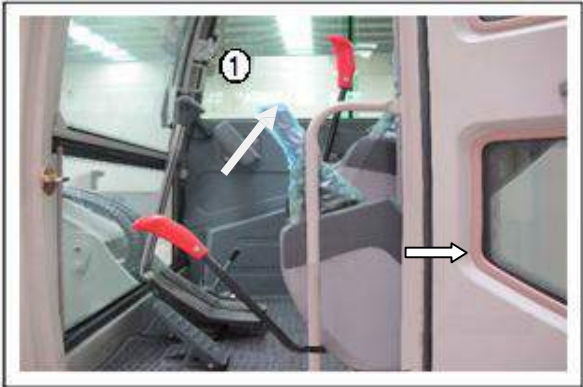

Fig 3—1
3 make sure the traveling action bar①, dozer blade action bar ② in neutral position (Fig 3—2)。